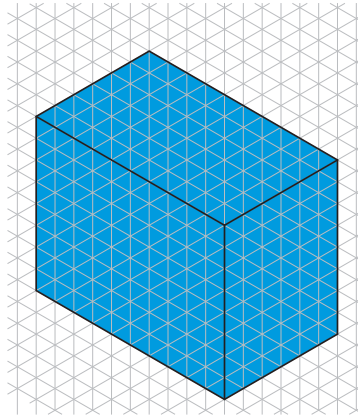

Figure 3-16. To draw a house, make a box on an isometric grid.
1. Lightly construct an isometric box eight squares long, four squares wide, and six squares high, as shown in **Figure 3-16**.